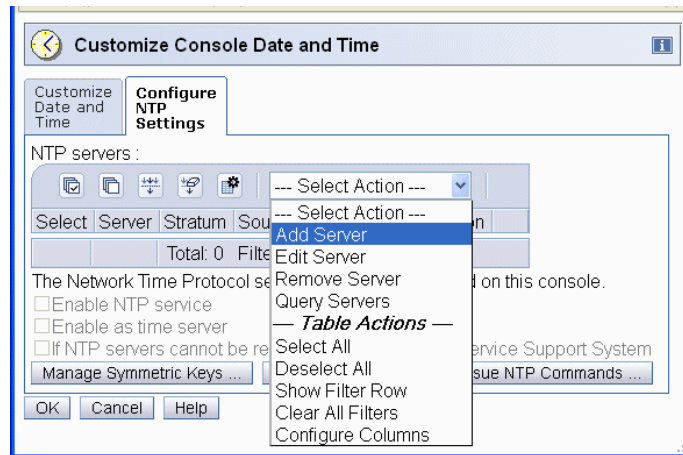

Figure 1-12 Add NTP Server
1. On the Customize Console Date and Time panel, click **Select Action** and select **Add Server** (Figure 1-12 on page 11).